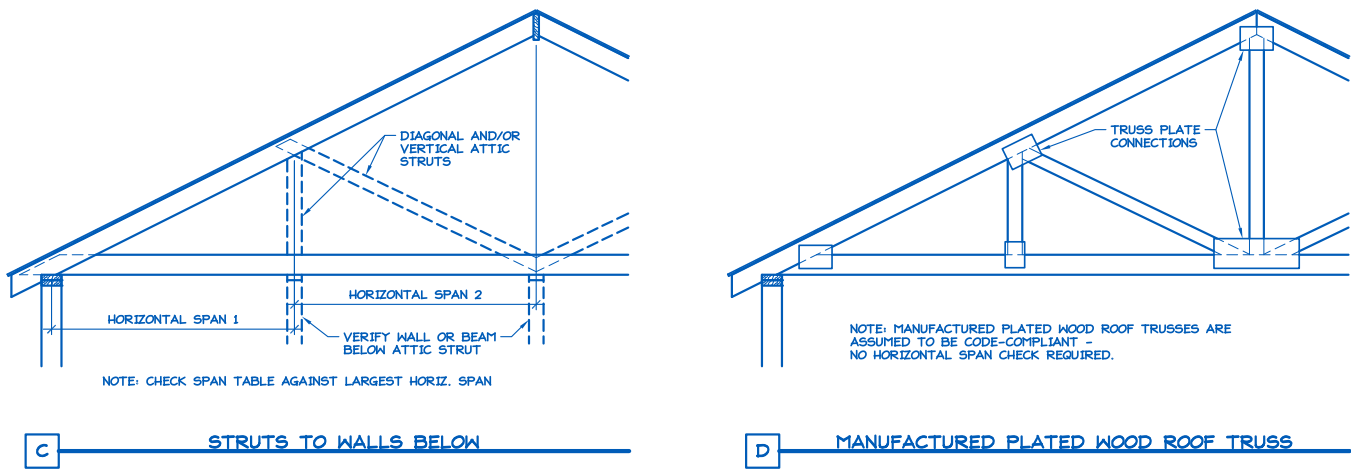

Figure 4. Definition of Rafter Horizontal Span.
5) Measured rafter horizontal span (see Figure 4): _____' - _____"ft-in
1. See Figure 4 for definition of roof rafter maximum horizontal span.